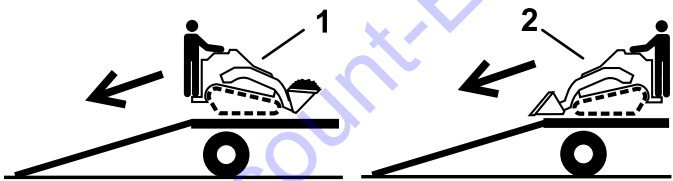

Figure 38
2. Unload the machine from the trailer with the heavy end up the ramp, carrying loads low (Figure 38).